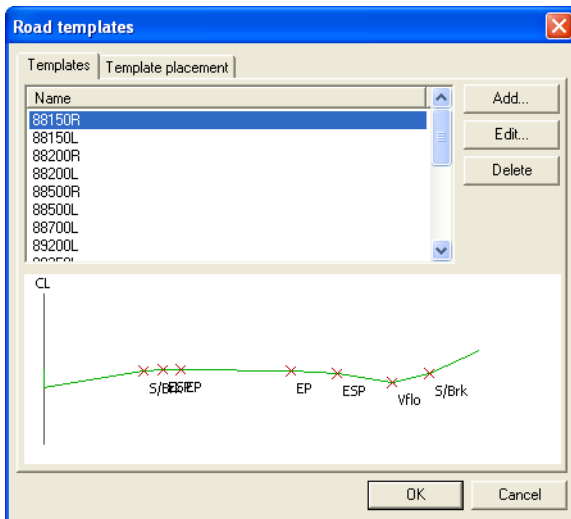

Figure 6-34. Road Templates
To view, add, or edit current road templates, click **Alignment ► Templates**. The *Road templates* dialog box (Figure 6-34) displays.
1. On the *Road templates* dialog box (Figure 6-34), click **Add**.